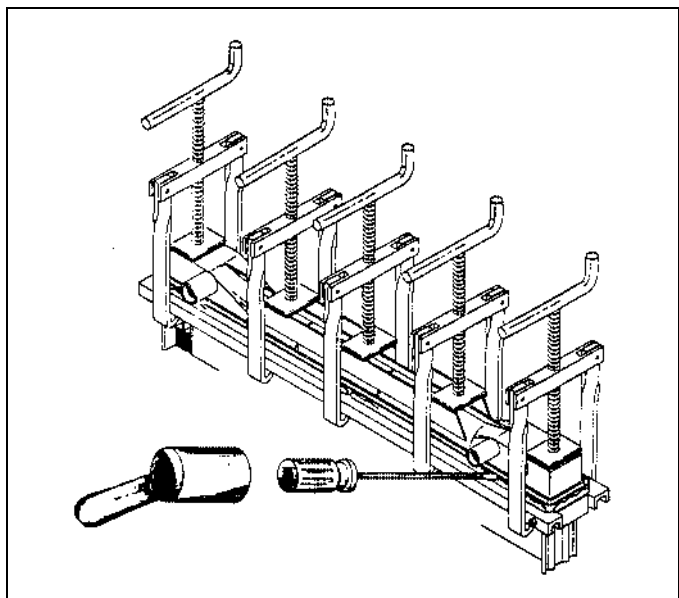
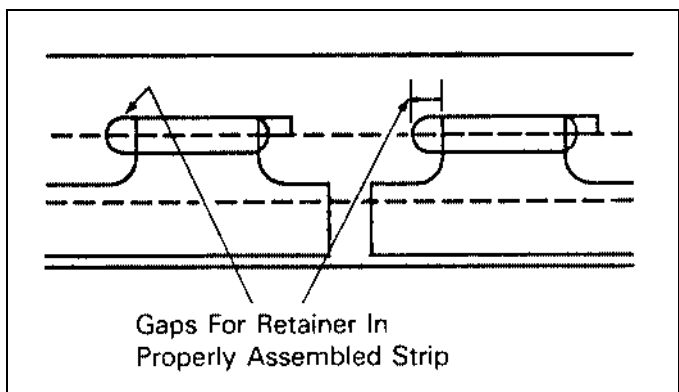

Figure 12-27
Figure 12-28
5. Insert latching strips, making sure all tabs are positioned into header slots. Tap strips to the right using a screwdriver and hammer as shown in Figure 12-27. This tapping locks the new strip into place. When fully engaged there be an opening in the left hand edge of the header slot, see Figure 12-28.